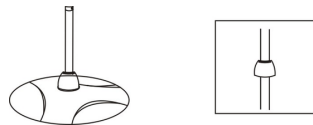

Fig.2
4. Place the decorative cover on the down tube (figure 2).